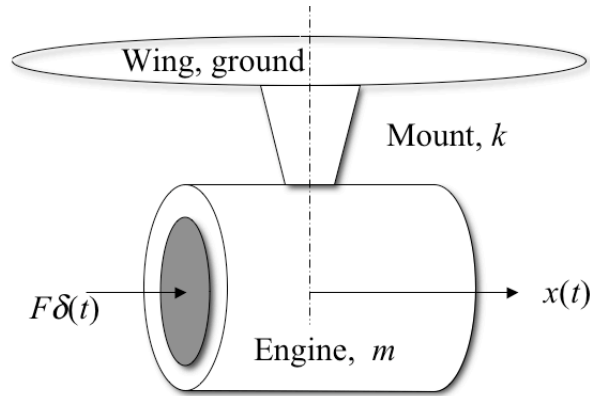

Figure P3.14 Model of a jet engine in transverse vibration due to a bird strike.
- 3.14** Consider the jet engine and mount indicated in Figure P3.14 and model it as a mass on the end of a beam as done in Figure 1.24. The mass of the engine is usually fixed. Find an expression for the value of the transverse mount stiffness, k , as a function of the relative speed of the bird, v , the bird mass, the mass of the engine and the maximum displacement that the engine is allowed to vibrate.